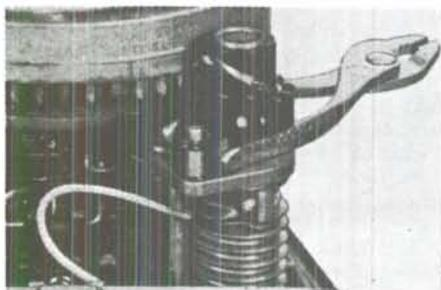
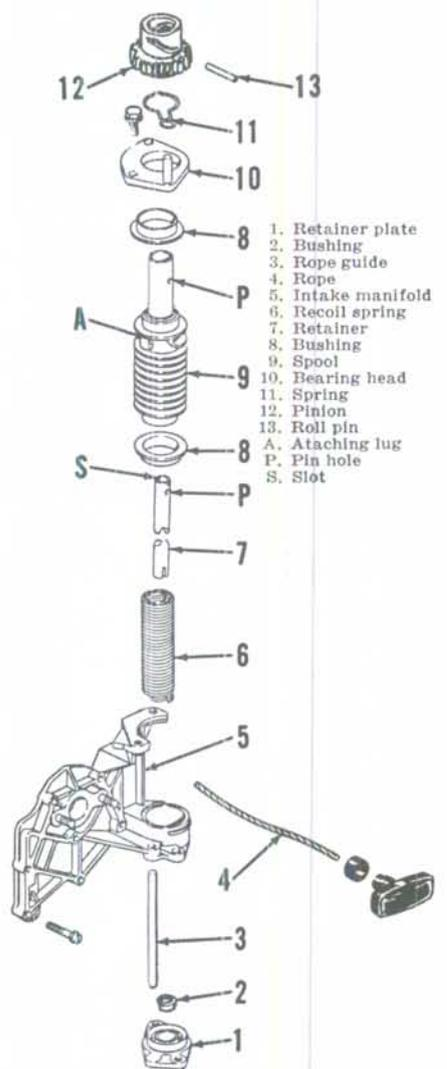

Fig. OM4-14—The starter pinion can be blocked up as shown for removing starter rope.
Fig. OM4-15—Exploded view of recoil starter and associated parts. Intake manifold (5) contains the mounting bracket for starter unit.
Refer to Fig. OM4-15 for an exploded view of starter assembly. Starter mounts on intake manifold as shown, and rope (4) extends through lower motor cover. The suggested procedure for rope renewal differs slightly from that required for other service; proceed as outlined for the type of service contemplated.
R&R STARTED ROPE. To RENEW a worn but still usable starter rope, remove upper motor cover and disconnect both spark plug high tension leads. Pull starter rope until almost fully extended. With rope-end in spool (9—Fig. OM4-15) accessible, block pinion into engagement with flywheel, thus locking the recoil mechanism. Refer to Fig. OM4-14. With starter securely locked, disconnect from rubber grip and lug (A—Fig. OM4-15). Install a new rope by reversing the removal procedure. With rope secured at both ends, remove the wedge and allow starter to recoil. If rope is broken or disconnected, assemble as outlined for service removal.
To renew a broken rope or reconnect starter rope after service, proceed as follows: Insert a heavy-duty screwdriver or brace with screwdriver bit through top of pinion (12—Fig. OM4-15) and spool (9) and into slot (S) in top of spring retainer (7). Turn screwdriver or brace counter-clockwise approximately 16½ turns until anchor (A) in spool is easily accessible; then engage pinion (12) in teeth in flywheel ring gear and lock the assembly by inserting a suitable block or wedge between pinion and upper bearing head. Refer to Fig. OM4-14. Thread the rope through hole in anchor (A—Fig. OM4-15), making sure rope is properly positioned behind rope guide (3); then reinstall the grip. Remove the previously installed locking block and allow starter to slowly recoil.